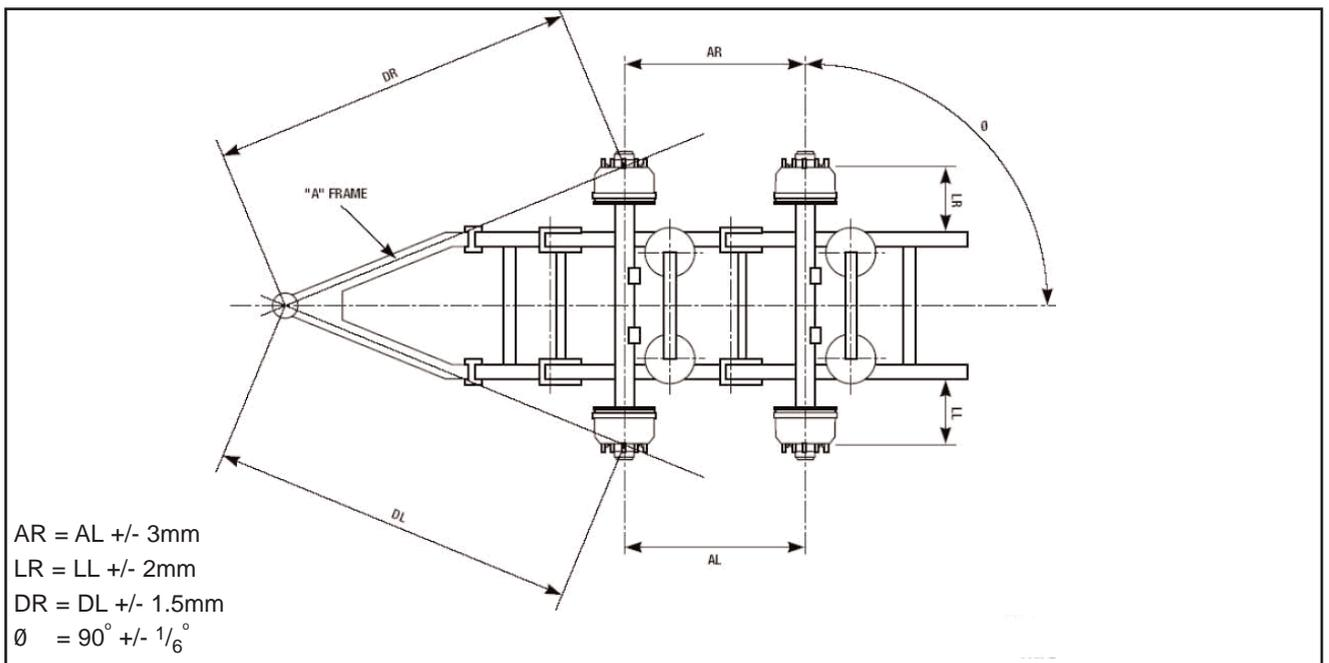

Fig 6.2
2. Measure from the king pin to each end of the first axle (measurement **DR** and **DL**. To obtain correct alignment, settings (Figs 6.2 & 6.3).
NOTE: To obtain correct alignment, the dimensions **DR** and **DL** must be within +/- 3mm at both ends of the axle (Figs 6.2 & 6.3)
2. To obtain correct alignment, the dimensions must be within +/- 3mm at both ends of the axle. (Figs 6.2 and 6.3). If Adjustment is required: Proceed to step 3 below. If Adjustment is not required: Proceed to step 4.
NOTE: Align the axle so that measurement **AR** equals measurement **AL** within +/- 3 mm. (Figs 6.2 and 6.3)
NOTE: * Do not torque the Pivot Nut or Shock Absorber nuts to final torque until the axle is aligned and the trailer is at the ride height with the wheels on. Refer to **Axle Alignment - Section 6 (Figs 6.2 & 6.3)** and **Ride Height Adjustment - Section 3**